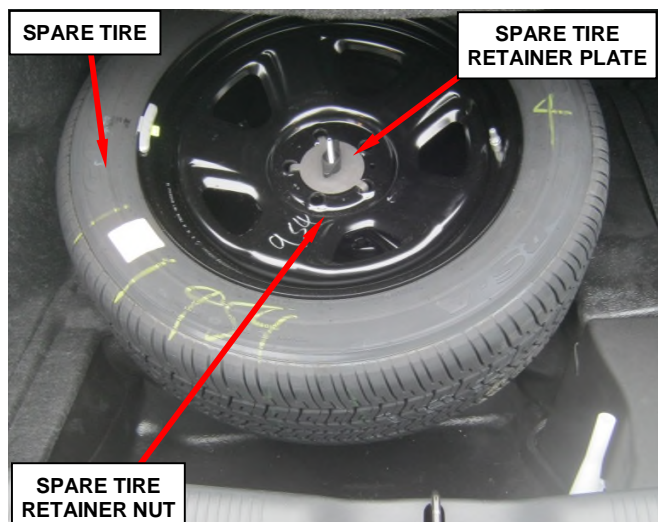

Figure 2 – Full Size Spare Tire
4. If equipped with a full size spare tire, remove and save the spare tire retainer plate (Figure 2).
12. **If equipped with a full size spare tire**, install the spare tire retainer plate (Figure 2).